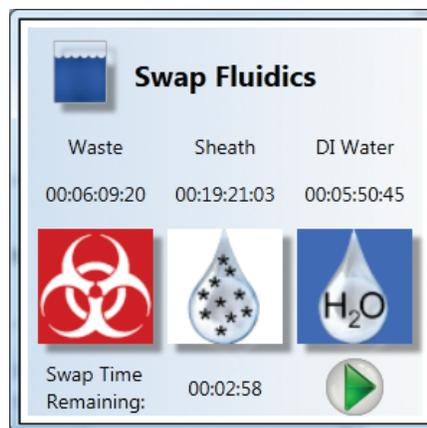

Fig. 11. ProSort Swap Fluidics status window.
4. Click the play button on the Swap Fluidics screen (Figure 11).